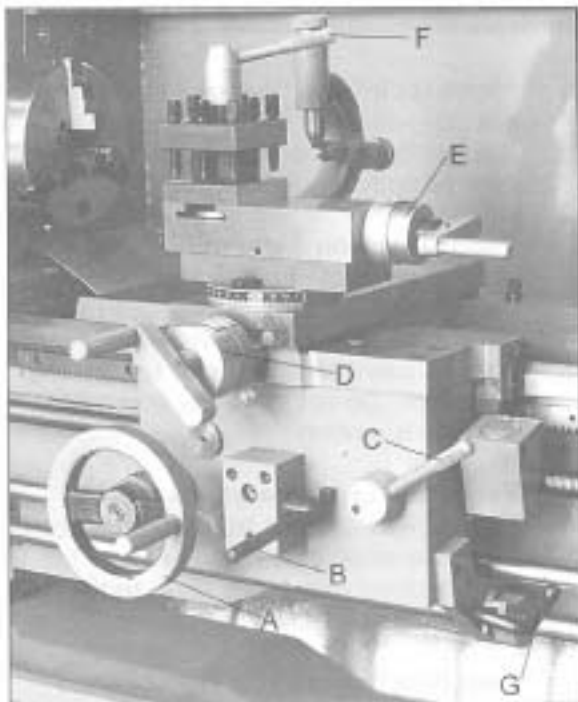

Fig. 12
12. **Longitudinal Traverse Hand Wheel (A, Fig. 12)** – located on the apron assembly. Rotate hand wheel clockwise to move the apron assembly toward the tailstock (right). Rotate the wheel counter – clockwise to move the apron assembly toward the headstock (left).
13. **Feed Selector (B, Fig. 12)** – located in the center front of the apron assembly. Push the lever down activates the crossfeed function. Pull the lever up activates the longitudinal function.
14. **Half Nut Engage Lever (Thread Cutting) (C, Fig. 12)** – located on front of the apron. Move the lever down to engage. Move the lever up to disengage.
15. **Cross Traverse Handwheel (D, Fig. 12)** – located above the apron assembly. Clockwise rotation moves the cross slide toward the rear of the machine.
16. **Compound Rest Traverse Handwheel (E, Fig. 12)** – located on the end of the compound slide. Rotate clockwise or counter – clockwise to move or position.
17. **Tool Post Clamping Lever (F, Fig. 12)** – located on top of the tool post. Rotate counter – clockwise to loosen and clockwise to tighten.
22. **Forward/Reverse Lever (G, Fig. 12)** – located on the right side bottom of the apron. Push the lever down for counter – clockwise spindle rotation (forward). Pull the lever up for clockwise spindle rotation (reverse). Neutral position, the spindle remains idle.